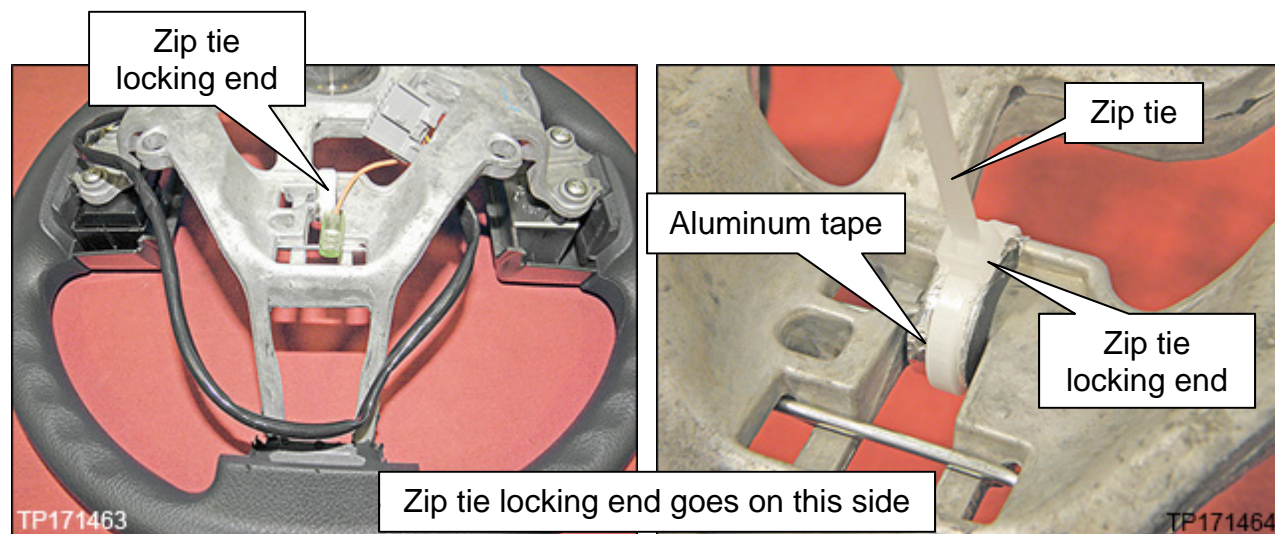

Figure 14
14. Install zip tie from kit over the aluminum tape as shown in Figure 14.